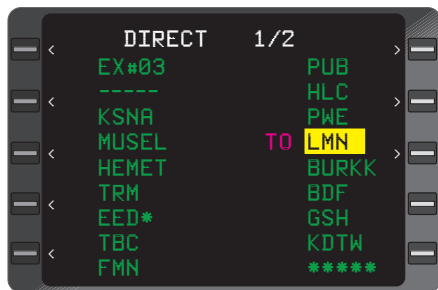

Figure 3-196
2. Line Select Key - DEPRESS to position the cursor over the waypoint to follow the EX# waypoint. (Figure 3-196)